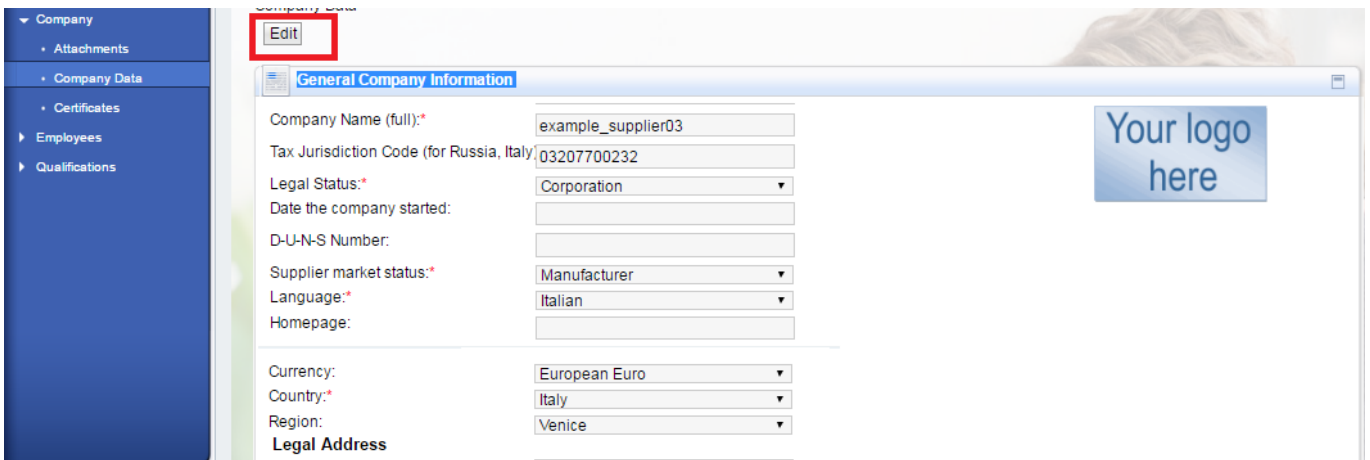

Fig. 12. Modifying information about the company
After clicking on the “Login” hyperlink you will enter the Supplier’s personal account (Fig. 12).
1. Pass to the Company → Information about the company section (Fig. 12).